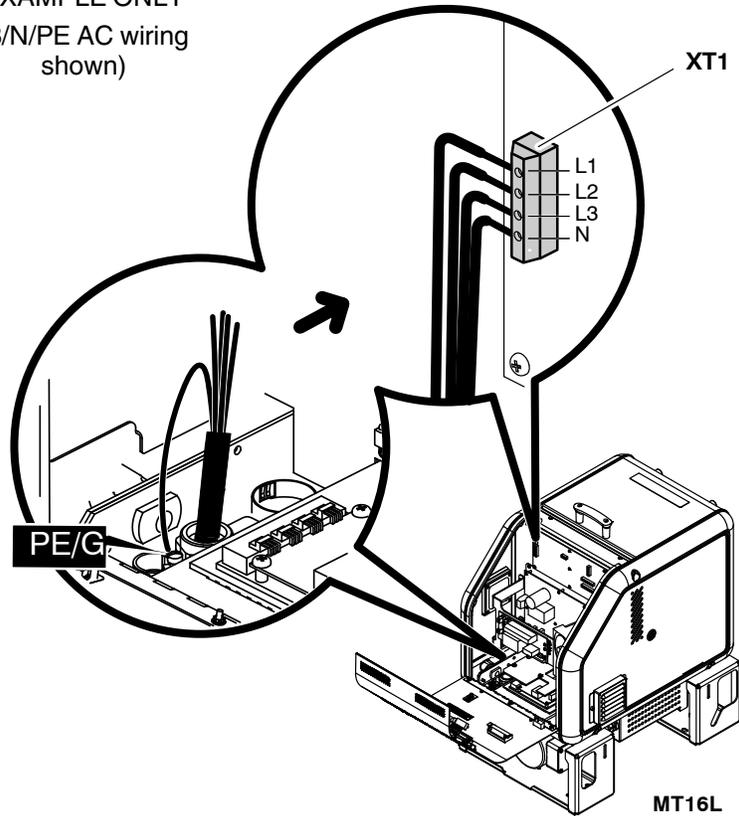

Figure 3-4 Connecting the power cable and ground lead on MT16L meters
See Figure 3-4 for A10/A16 melters.
4. Connect each power cable lead to terminal block XT1, as shown in Figure 3-4. Table 3-3 lists the terminals that are used for each of the electrical service types that are compatible with the melter.